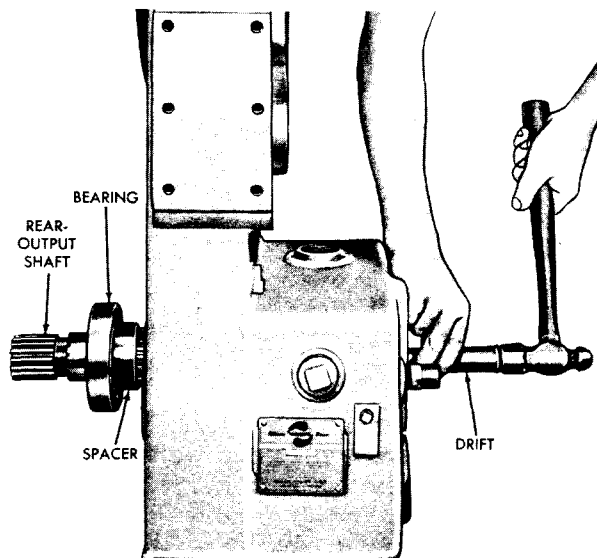

Fig. V-29. Removing rear output shaft, bearing and spacer
(21) Position the transfer housing upright and, using a soft drift, drive the rear-output shaft, bearing and spacer far enough toward the rear to free it from the output transfer driven gear and the bearing remaining in the transfer housing. Remove the shaft, bearing and spacer (fig. V-29). Refer to sect. VI, para 28 for rebuild of the rear-output shaft assembly.